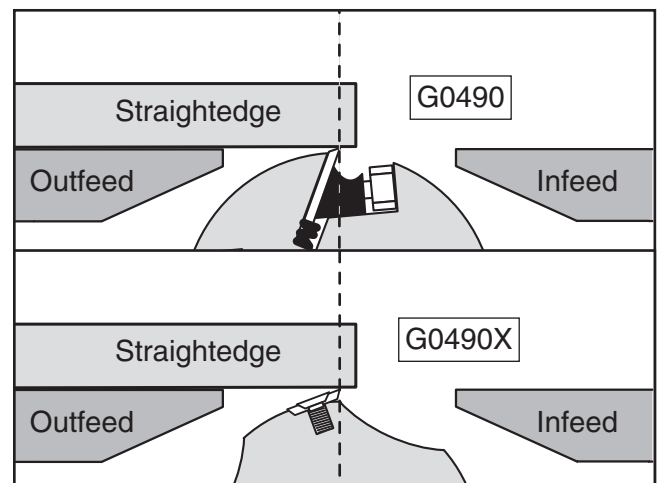

Figure 69. Using the straightedge to check the outfeed table height.
7. Use the outfeed table adjustment lever to set the outfeed table so that the knife or insert barely touches the straightedge, as illustrated in **Figure 69**.